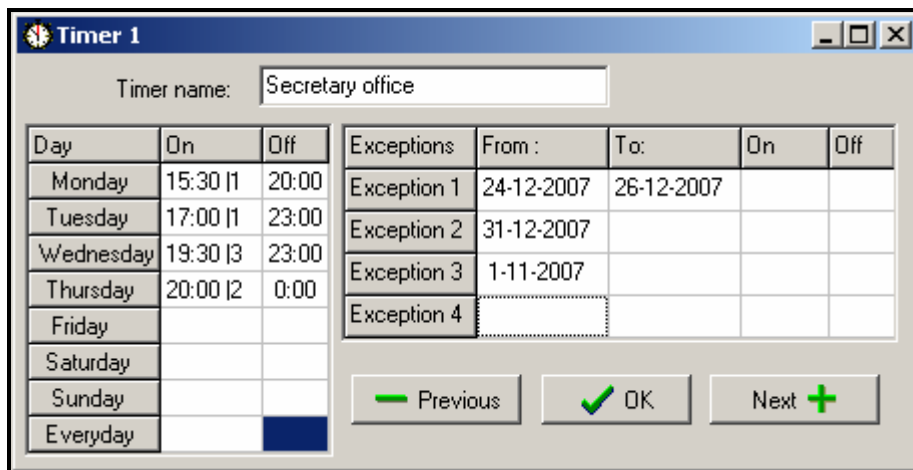

Fig. 8. Timing for CONTROLLED BY TIMER partition.
**Access according to timer** – the partition is controlled by the user, but partition arming and disarming is only possible within time periods determined by operation of selected timers. Depending on the control panel size, an option with 16 or 32 timers is provided. Beyond those time periods neither arming, nor disarming of the partition is possible. For example, if the timer shown in Figure 8 is selected to control access to the “Secretary office” partition, the partition arming/disarming will be possible according to schedule – on Monday between 16:30 and 16:45, on Friday between 18:00 and 18:15 and so on, except for the time periods given in the timer exception table.